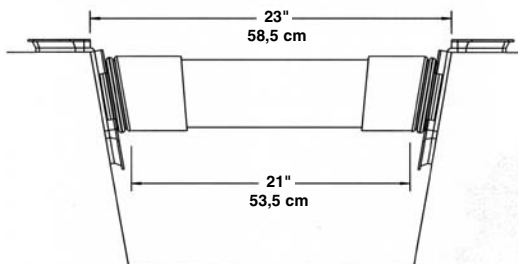

Figure 1 *Figura 1* Illustration 1
In each carton of conduit sleeve couplings you find an even number of couplings. Each installation will require two couplings per pass-through assembly as pictured in Figure 1. The conduit sleeve coupling is designed to be mounted in vertical wall spans or angled wall spans up to 30° per side.
1. To determine the necessary cut length of conduit to create a pass through, measure the distance of span at top edge of form as shown in Figure 1.
- Cut conduit to length: 21" (Figure 1)